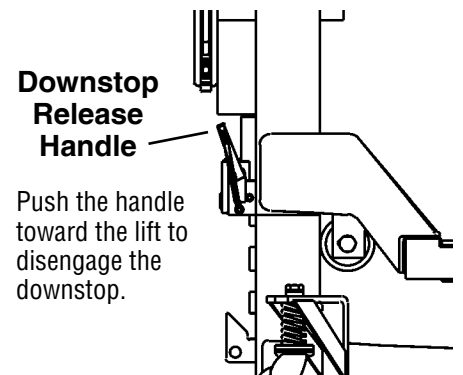

Figure 3
5. Continue raising the lift until the downstop release handle (Figure 3) can be pushed toward the lift, disengaging the downstop.